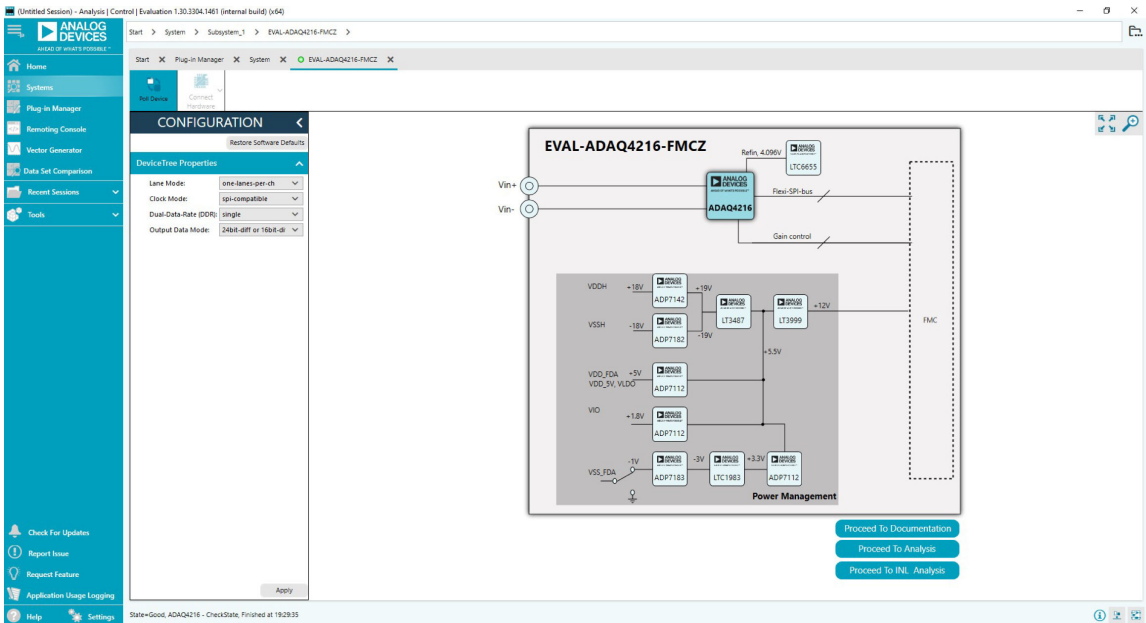

Figure 10. ADAQ4216 Board View Window
4. Double-click **ADAQ4216 Eval Board** icon to open the Board view tab, as shown in Figure 10.